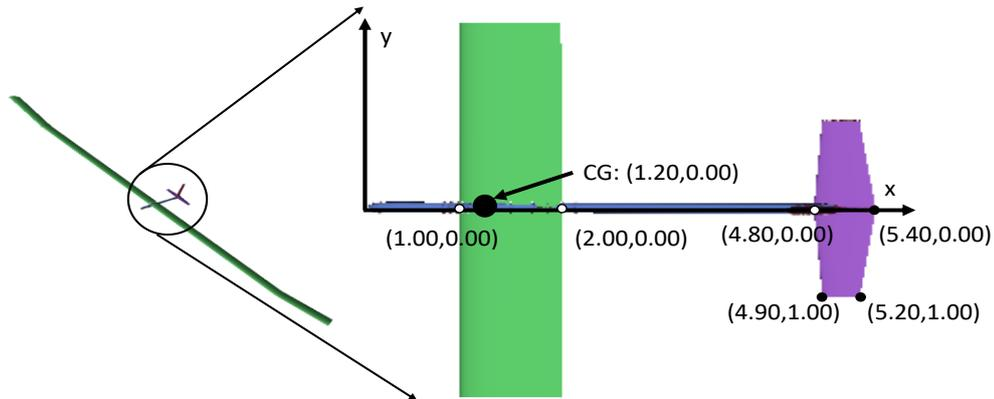

Figure 1. Typical HALE configuration
6. `HALEbook.smx` and `HALEbook.geo` describe a typical High Altitude, Long Endurance configuration with no details of propulsion, fig. 1 below. Google the Airbus Zephyr to see an